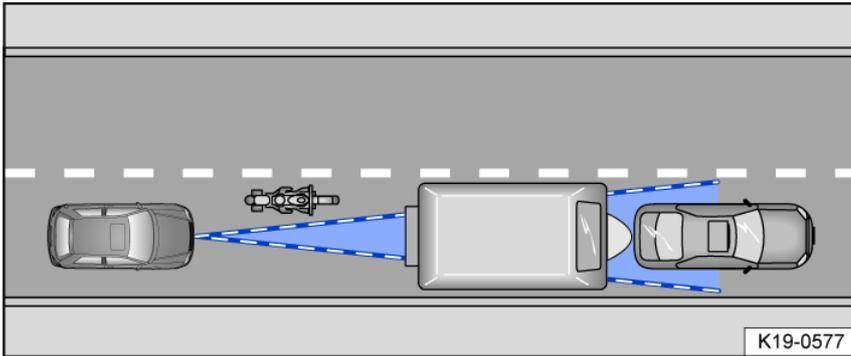

Fig. 131 Narrow vehicle.
- If there are vehicles that are driving close to your vehicle but outside the sensor range, such as motorcycles *fig. 131*.